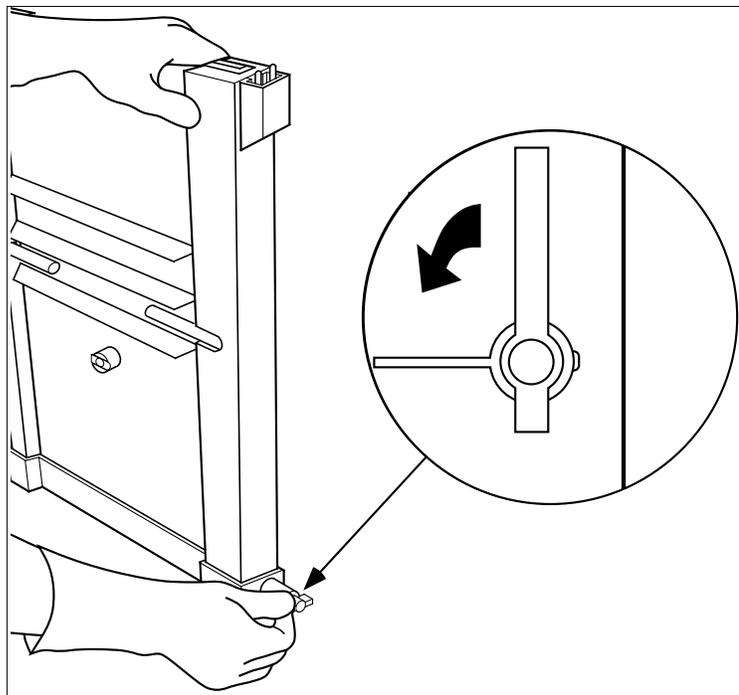

Fig. 4.4. Attaching precision caster base to IPC assembly.
4. When the IPC assembly is seated in the caster base, use the cam pegs to connect the base to the clamps (Figure 4.4).